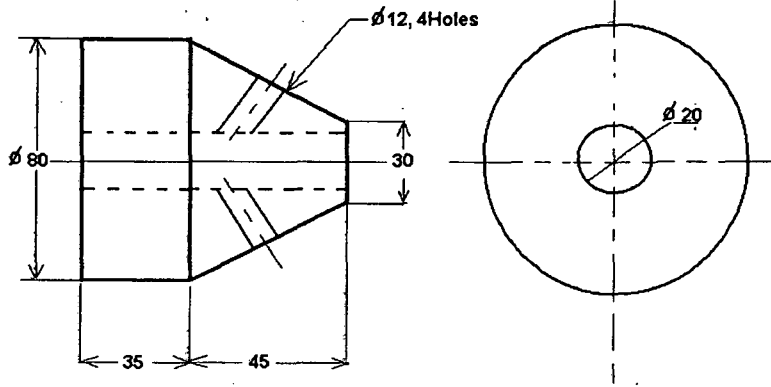

Fig.12.b
12.a) Design a drilling jig for use when drilling the four $\phi 6$ holes in the component shown in Fig. 12 a
- i) Give a neat operation chart. (2)
- ii) Draw two views of the Jig. (12)
- iii) Specify appropriate fits and tolerances for critical parts. (3)
- iv) Dimension the views and give a neat parts list. (3)
12.b) Design an indexing jig for use when drilling the 4 $\phi 12$ inclined holes in the component shown in Fig12.b.
- iii) Specify appropriate fits and tolerances for critical part. (3)